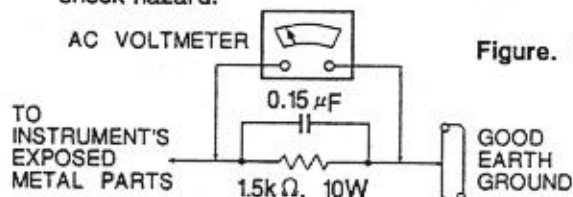

Figure. 1
- 5.2 Connect a 1500 ohm, 10 watt resistor, parallel a 0.15  $\mu$  F capacitor between each exposed metallic part and a good earth ground (as shown in Fig 1).